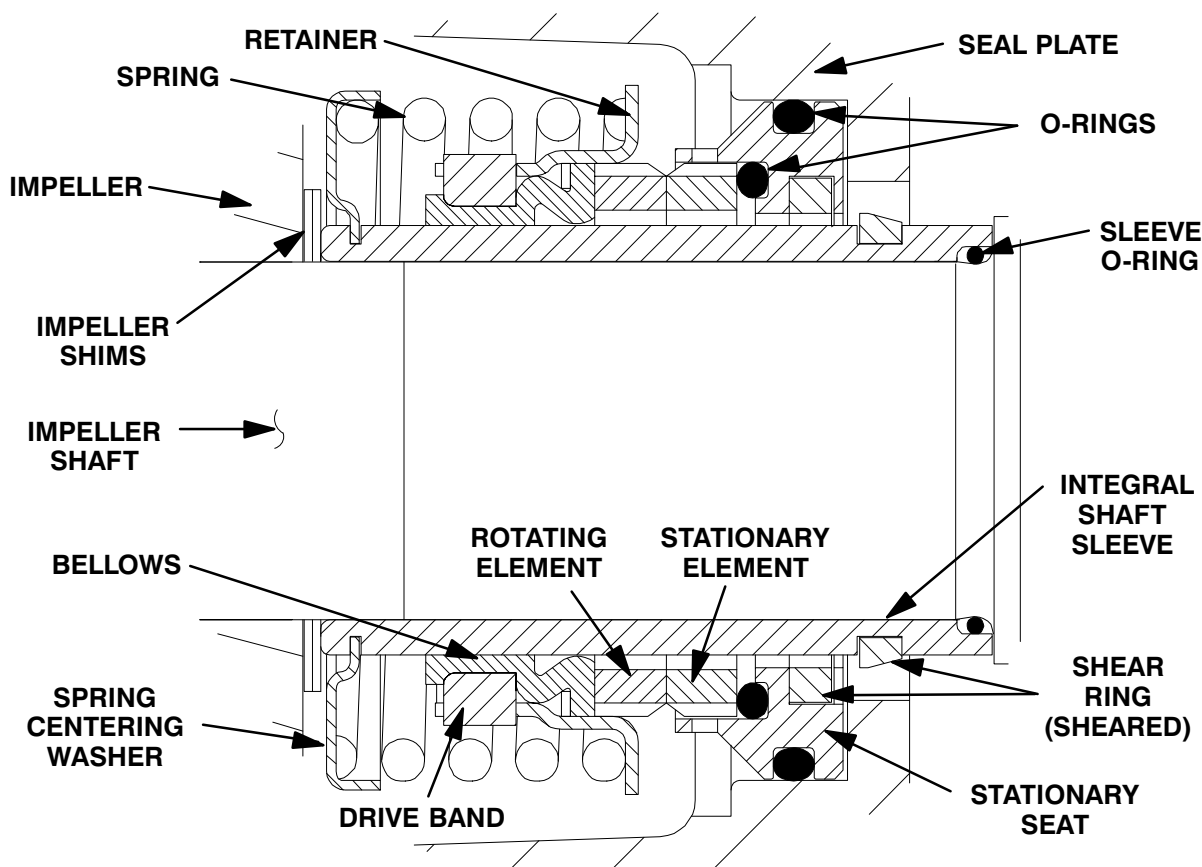

Figure 8. Cartridge Seal Assembly
To ease installation of the seal, lubricate the shaft sleeve O-ring (32) and the external stationary seat O-ring with a very **small** amount of light lubricating oil. See Figure 8 for seal part identification.